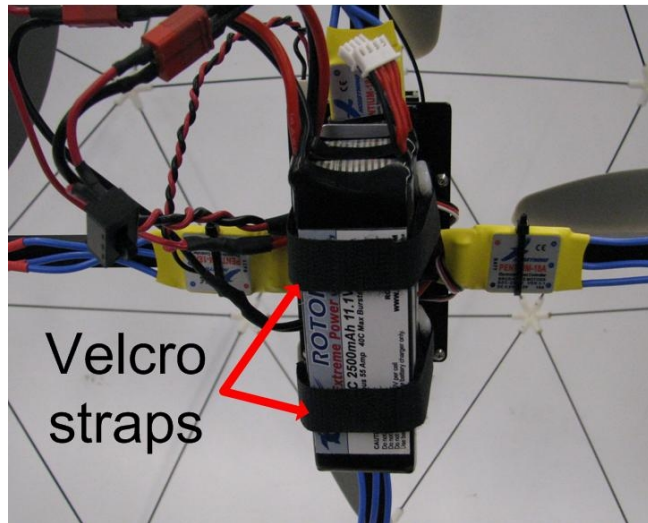

Figure 17: Batteries secured with velcro straps.
2. Install the batteries. Placing the Qball-X4 upsidedown so that it rests on the top of the cage. Align the two Qball-X4 batteries with the plate located on the bottom of the frame and secure the batteries tightly using the two velcro straps as shown in Figure 17. Connect the batteries to the battery connectors and place the Qball-X4 upright again so it rests on the bottom of the cage.